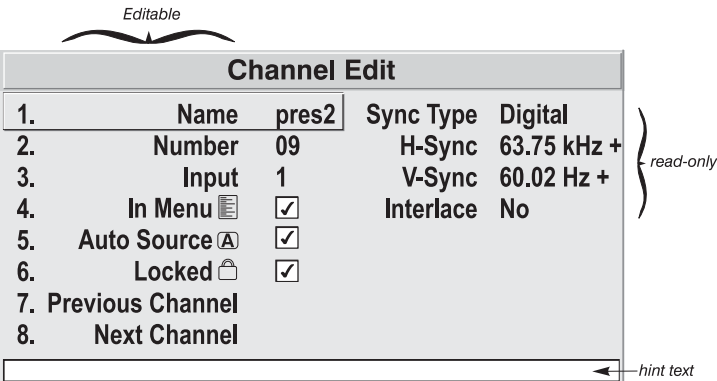

Figure 3.13. Channel Edit Menu (SAMPLE)
- CHANNEL EDIT — STEP 2** To edit parameters shown in the *Channel Setup* menu, select the relevant channel and press **Enter**. The *Channel Edit* menu will appear similar to the sample shown in Figure 3.13.